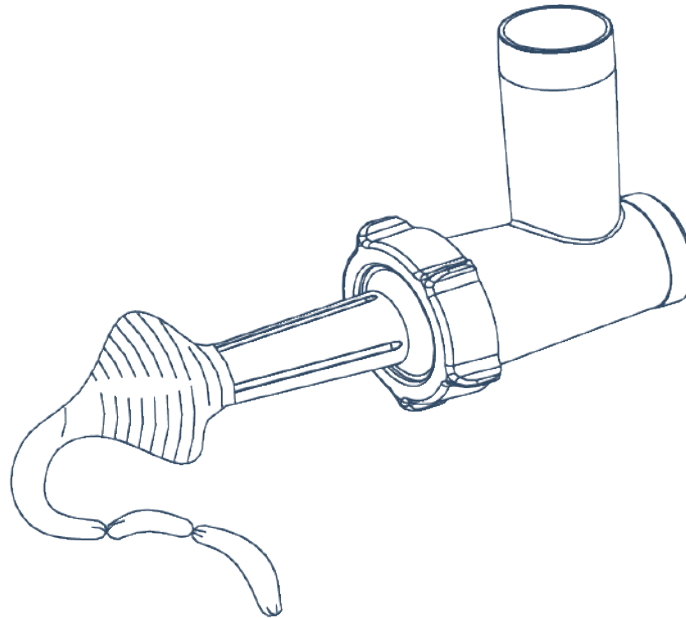

Fig. 7
3. Prepare the sausage casing: Slide the cleaned sausage casing onto the stuffing tube (Fig. 7).